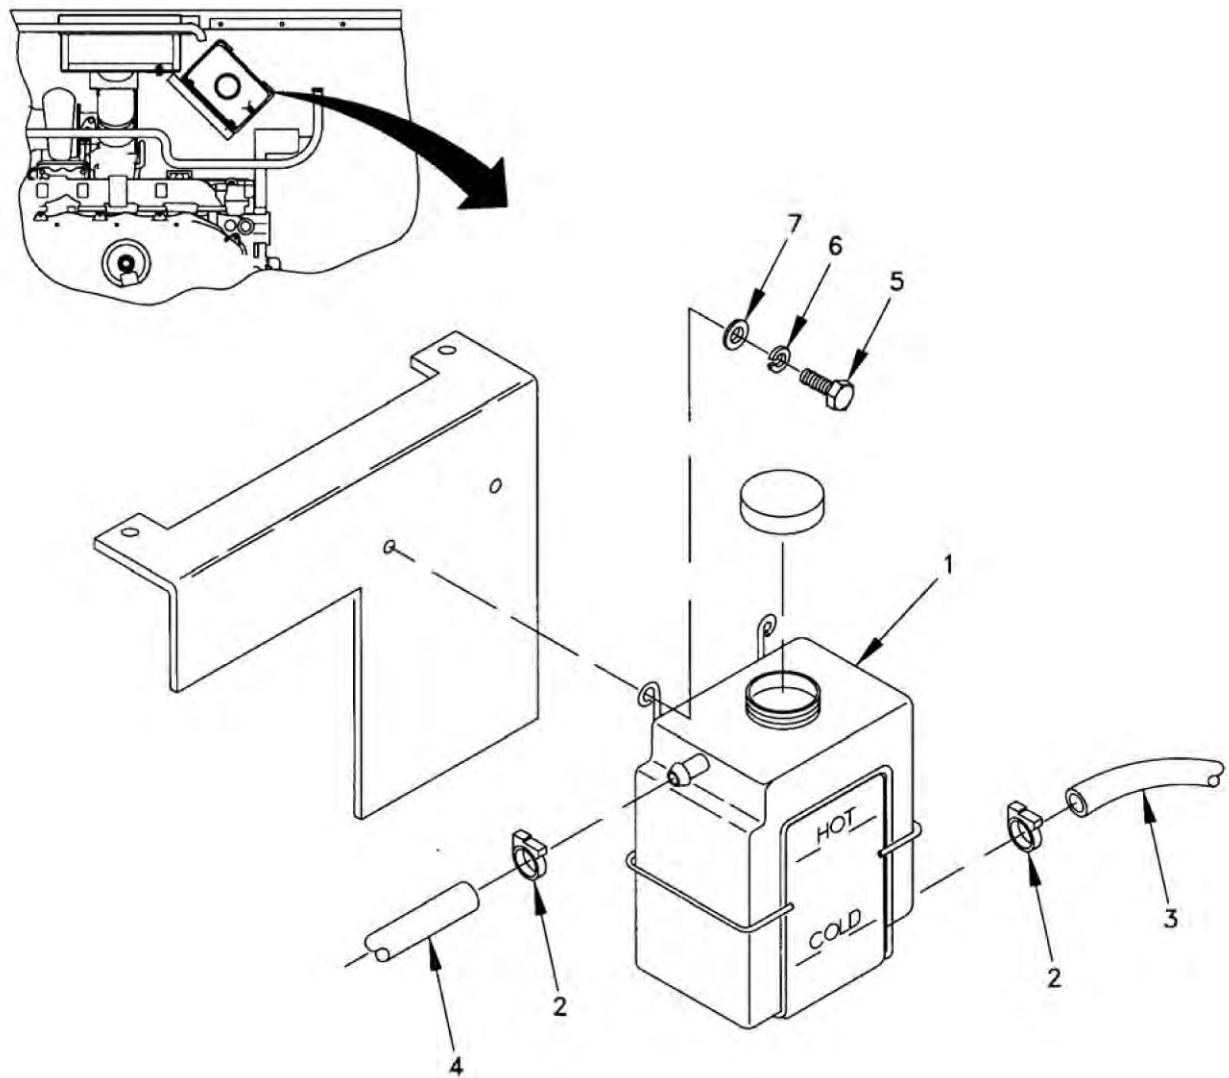

Figure 1. Coolant Recovery System.
3. Place container under coolant recovery system bottle (Figure 1, Item 1).
4. Remove two hose clamps (Figure 1, Item 2) securing hoses (Figure 1, Item 3) and (Figure 1, Item 4) from coolant recovery system bottle (Figure 1, Item 1) and disconnect two hoses.
6. Remove two screws (Figure 1, Item 5), washers (Figure 1, Item 7), lock washers (Figure 1, Item 6), and coolant recovery system bottle (Figure 1, Item 1).
1. Install coolant recovery system bottle (Figure 1, Item 1), two lock washers (Figure 1, Item 6), washers (Figure 1, Item 7), and screws (Figure 1, Item 5).
2. Connect two hoses (Figure 1, Item 3) and (Figure 1, Item 4) to coolant recovery system bottle (Figure 1, Item 1) and secure with two hose clamps (Figure 1, Item 2).
3. Pour coolant into coolant recovery system bottle (Figure 1, Item 1). If necessary, add coolant so level is between HOT and COLD marks on bottle.